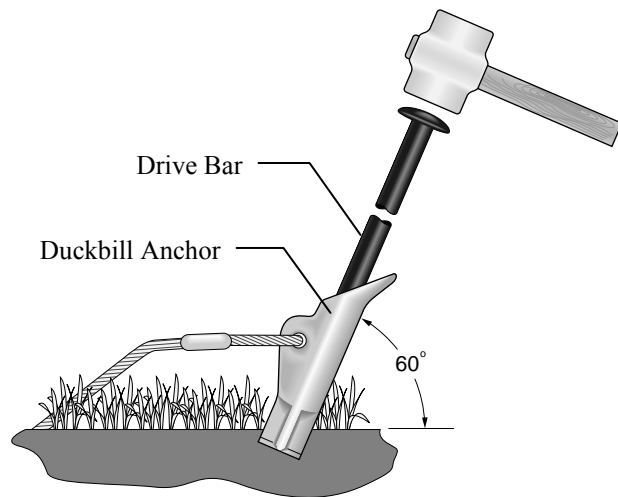

FIGURE 2.1-7. UTDUK duckbill guy anchor
1. Locate the three anchor locations (Section 2.1.2). It is important that the anchors be driven at the same angle as the guy wires (Figure 2.1-7). Insert the steel drive bar into the anchor body and drive the anchor into the ground using a fence post driver or sledgehammer until only the top half of the loop remains above the ground.